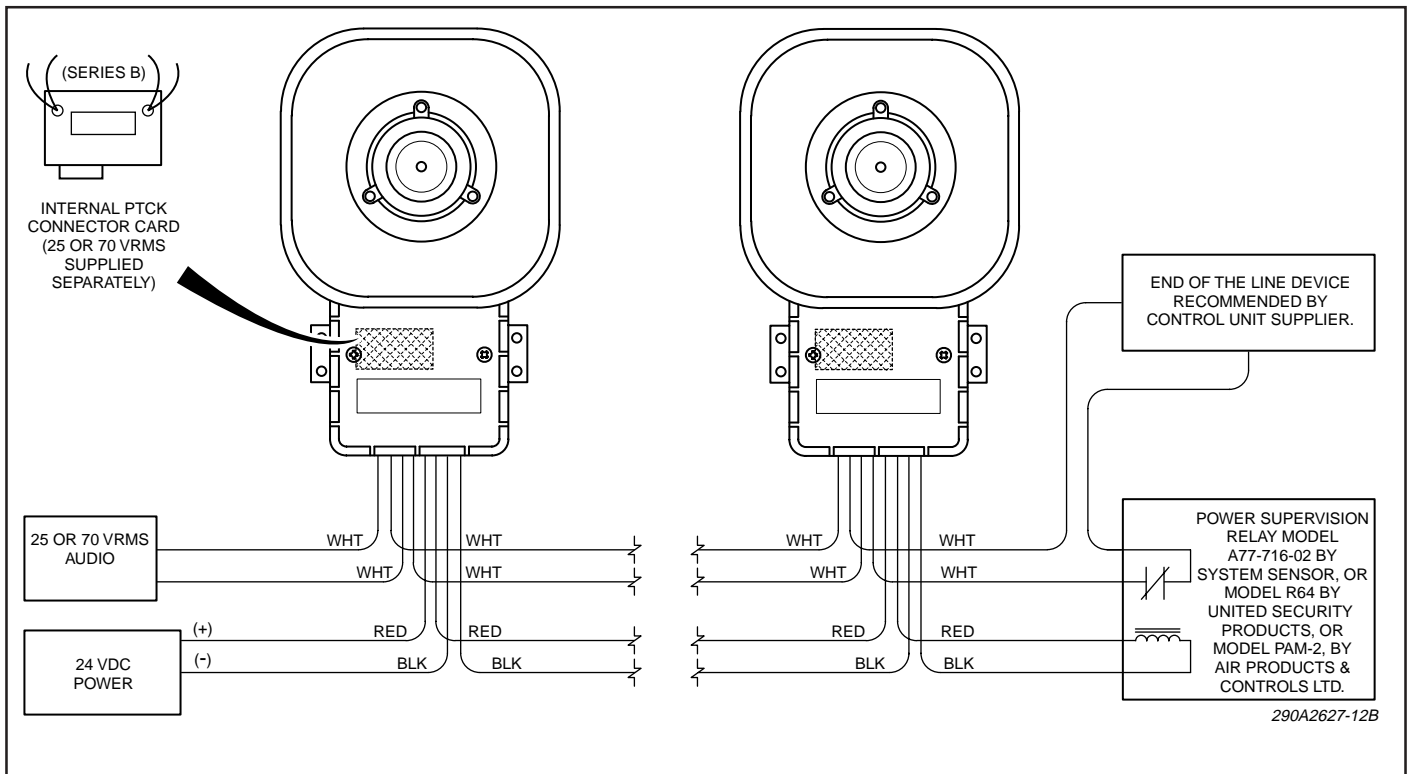

Figure 4. Typical Connector Card (PTCK) Installation Wiring.
*Check with authority having jurisdiction for proper application of EOL resistor and power supervision relay required (see figure 4).*